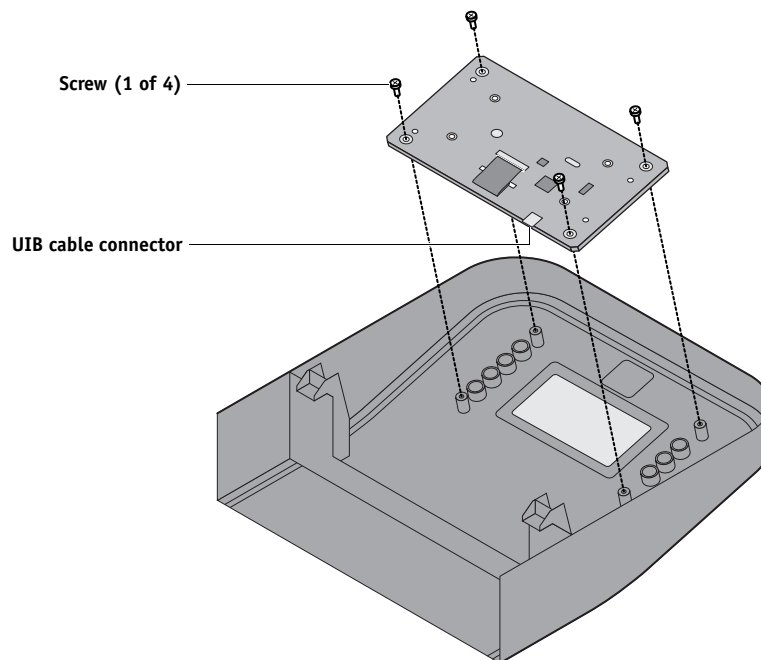

FIGURE 18: Removing/replacing the User Interface Board
2. **Attach the UIB cable to the connector on the back of the UIB (see Figure 18 on page 61).**